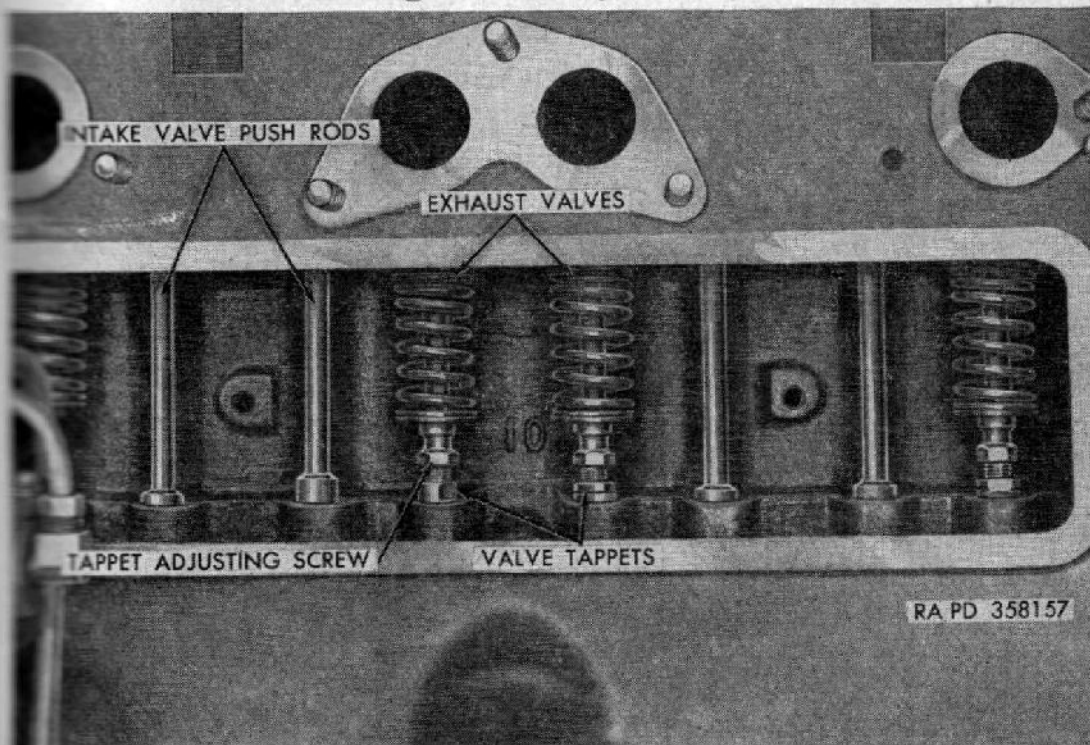

Figure 30. Exhaust valves with exhaust valve cover removed.
- (2) *Check and adjust exhaust valve clearance* (figs. 30 and 31). With a hand crank, turn engine until the valve tappet of No. 1 cylinder is down all the way, not touching the valve.